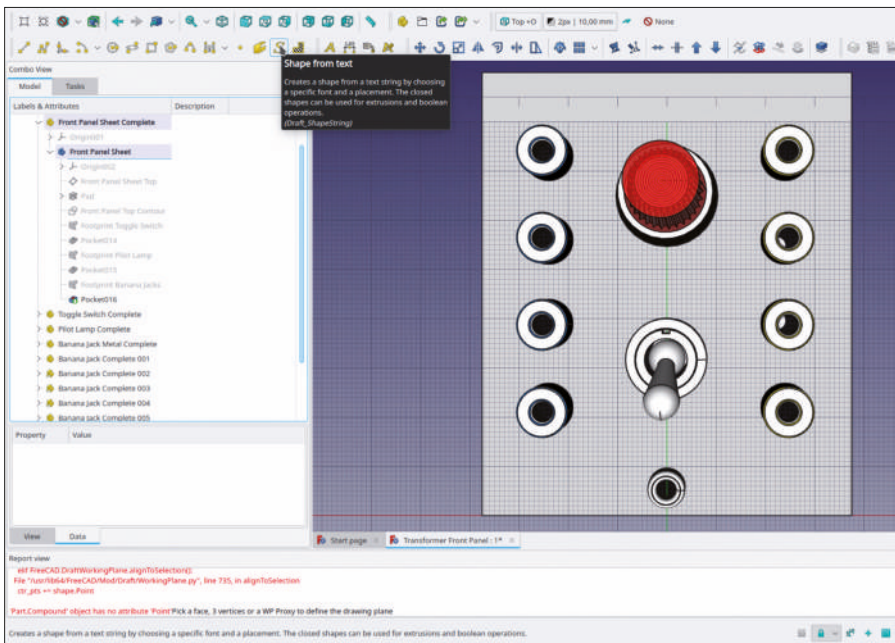

Figure 9-35
3. Click on the 'Shape from text' tool button. (Figure 9-35).